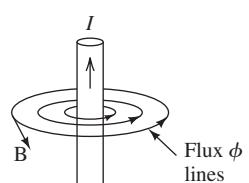

FIGURE 12.2
Magnetic fields are created around current-conducting wires and permanent magnets. The field is created by electrical charges in motion. In a permanent magnet, this charge in motion is caused by the spin of electrons in the atoms. If the direction of motion of each electron is random, the atomic fields created by the random movement will cancel each other, and the overall structure will not have any magnetic property. If all electrons spin in the same direction, the atomic fields aid each other, producing a net external effect. This produces a magnetic property in the structure. In a wire, the field is created by the flow of charges (i.e., current) in the wire. The magnetic field can be visualized as lines of magnetic flux that form closed paths. Figure 12.2 represents a magnetic field (flux lines) created around a wire that carries current.
Vector \mathbf{B} represents the magnetic flux density, in webers per square meter (Wb/m^2) or teslas (T). The flux density, vector \mathbf{B} , has a direction tangent to the flux lines as shown in Figure 12.2. Vector $d\mathbf{A}$ is the increment of area on the surface. Here, $d\mathbf{A}$ is perpendicular to the surface. If the magnetic flux density is constant over the surface and perpendicular to the surface, using Equation (12.1), the flux can be simplified to: